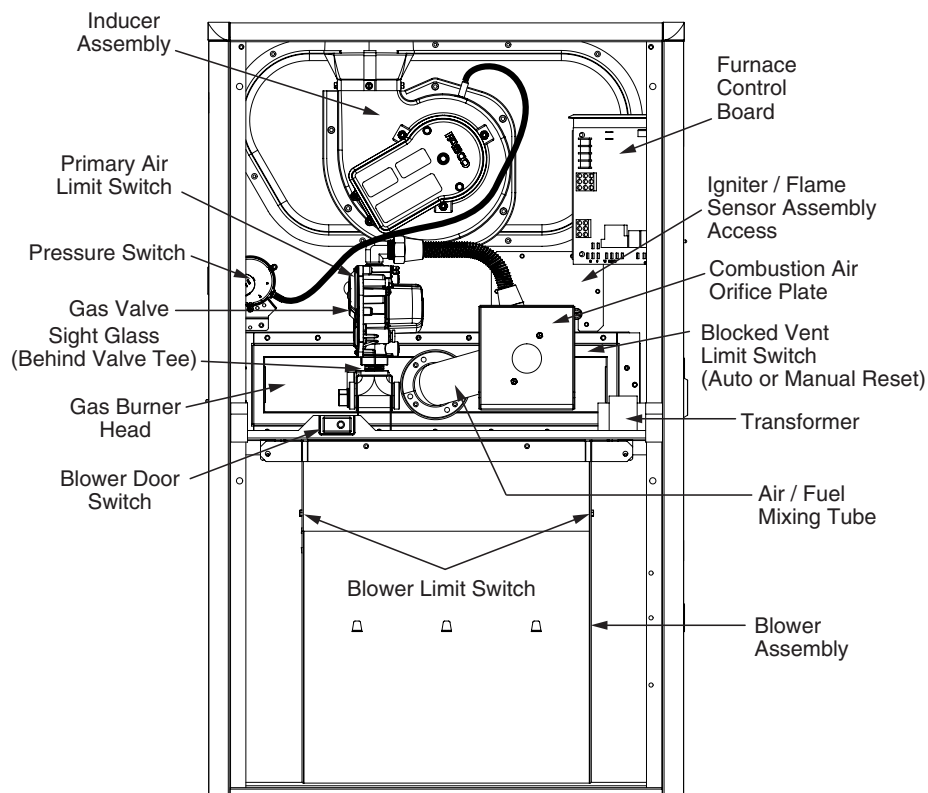

Figure 17. Component Locations
Cleaning of Flame Sensor - If the flame sensor is suspect for Loss of Flame fault code, the sensor can be cleaned to see if that remedies the issue. Follow steps 1 - 10. See Figure 17, \(page 19\) for component location.
- If the inducer blower is operating and items above have been verified, check the limit switch circuit and reset if necessary. See Figure 17, \(page 19\) for component location.
- If the furnace still doesn't operate, check the flame roll-out switch and reset if necessary. See Figure 17 for component location.
The descriptions below are various functional components that affect the operation and shutting down of this furnace. Some of these components and their locations are shown in Figure 17. If any component of the furnace must be replaced, use only factory authorized replacement parts specified in the Replacement Parts List.